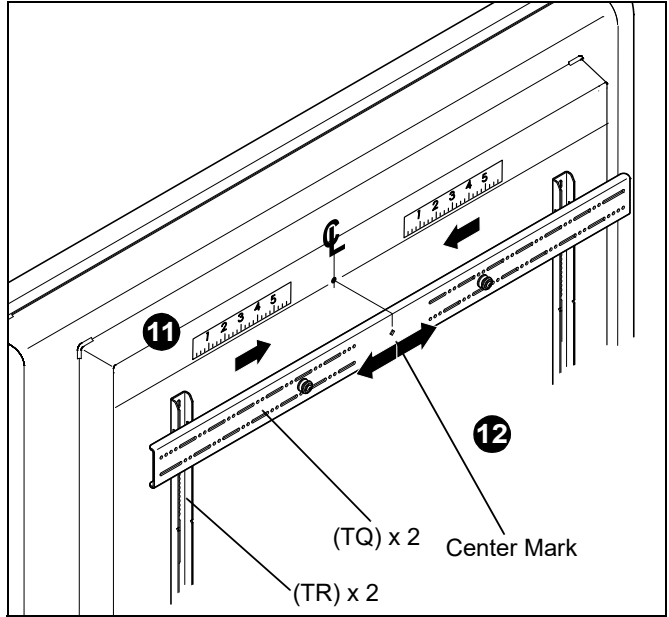
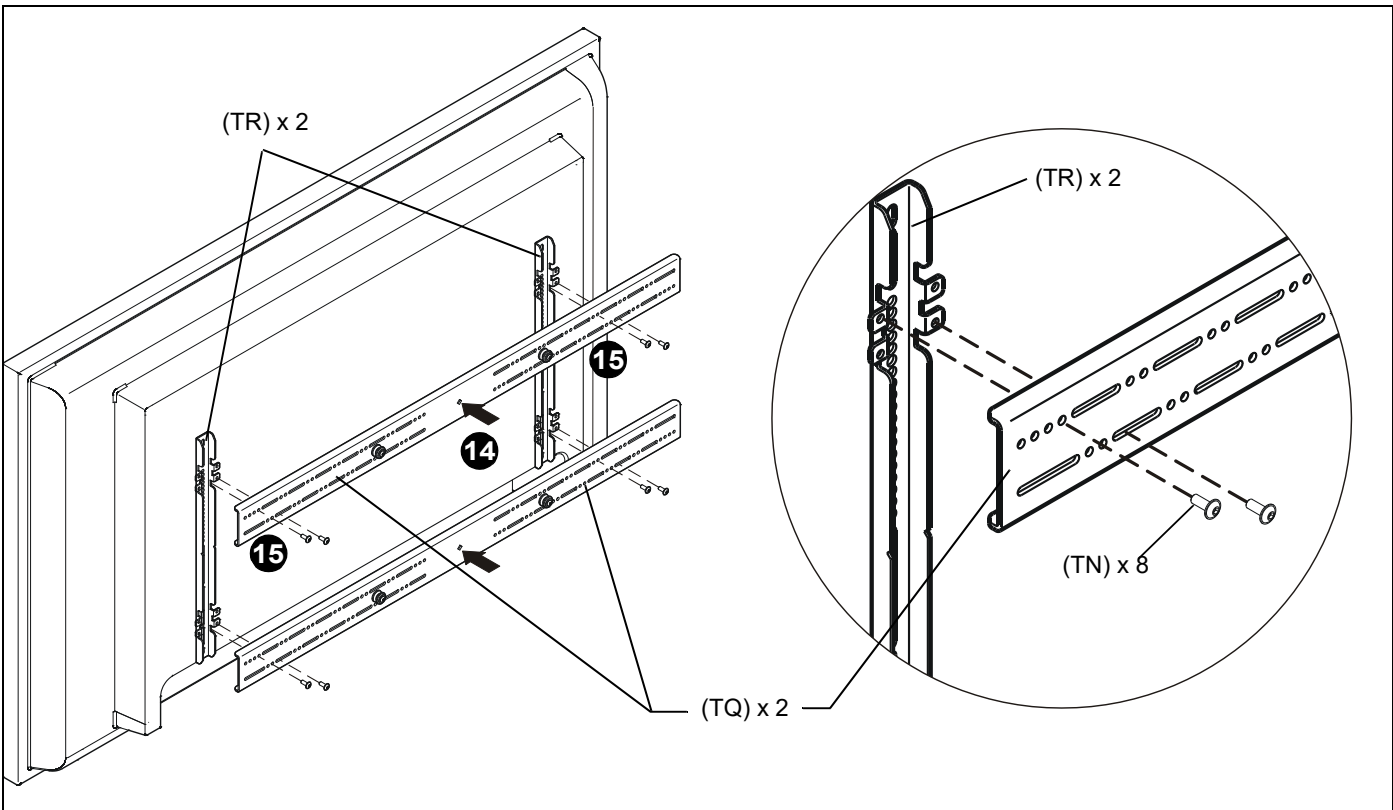

Figure 18
Figure 19
11. Determine and mark the horizontal center position between the Left and Right *TOP* mounting holes in display. (See Figure 18)
12. Determine and mark the horizontal center position between the Left and Right *BOTTOM* mounting holes in display. (See Figure 18)
13. Orient upper horizontal mounting bracket (TQ) so that flanges are facing towards display and resting in recessed area of left and right vertical mounting brackets (TR). (See Figure 18)
14. Adjust Upper horizontal mounting bracket (TQ) position until center diamond in horizontal mounting bracket (TU) aligns with mark made in Step 11, and mounting holes and slots in horizontal mounting bracket (TQ) are aligned with threaded holes in mounting tabs of left and right vertical mounting brackets (TR). (See Figure 18) and (See Figure 19)
15. Use 1/8" hex key (TP) to secure upper horizontal mounting bracket (TQ) to left and right vertical mounting brackets (TR) using four button head flanged screws (TN). (See Figure 19)
16. Repeat Steps 12 through 15 for lower horizontal mounting bracket (TQ).
IMPORTANT ! : The orientation of, and mounting holes used, when installing the lower horizontal mounting bracket must be the same as the upper horizontal mounting bracket. Vertically align upper and lower brackets by aligning holes or end of slots. (See Figure 19)
IMPORTANT ! : Whenever possible install mounting screws diagonally as shown in detail in Figure 18.